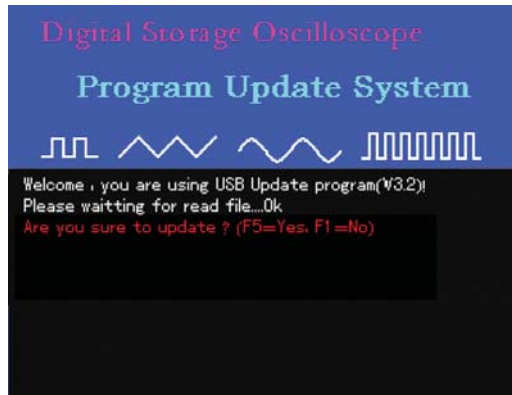
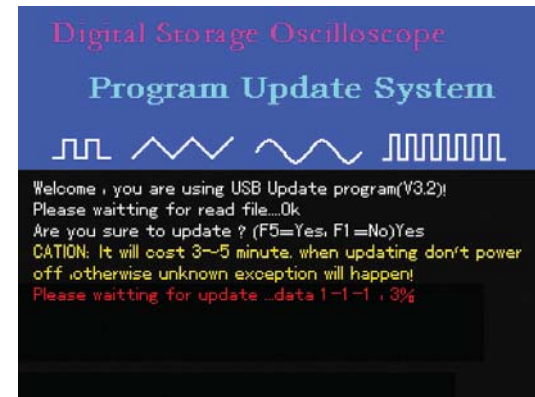

Figure 5-3
Figure 5-4
4. The upgrade system will determine whether the upgrade document meets upgrade criteria. When done, the interface shown in Figure 5-3 appears to prompt : “Are you sure to update?”
5. On the screen shown in Figure 5-3, press [F5] to confirm you require to upgrade the program. The screen shown in Figure 5-4 will appear with the following prompt : “CAUTION : It will cost 3-5 minute. When updating don’t power off, otherwise unknown exception will happen! Please waiting for update ...data ...%”